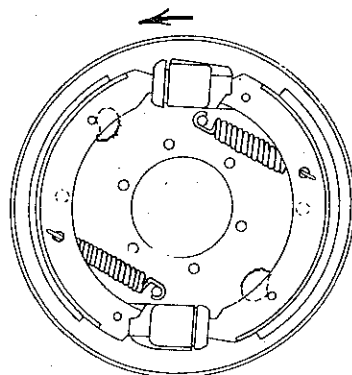

FIG 2 - FRONT LEFT SIDE
- a. Front brake shoes are to be fitted as shown in Fig 2. The front brake shoe steady posts are to be adjusted, as detailed in VEH G 306, Section 70.40.02.